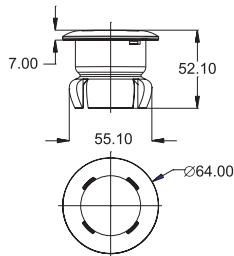

Figure 1
1. This underwater lights mounted to the trial in the 2 "PVC pipe(Imperial 12Bar, Metric 1.25Mpa),before installation,selecting a suitable PVC pipe.(Note: Due to a variety of different wall thickness PVC pipe, please refer to Figure 1 to choose appropriate size of tube)